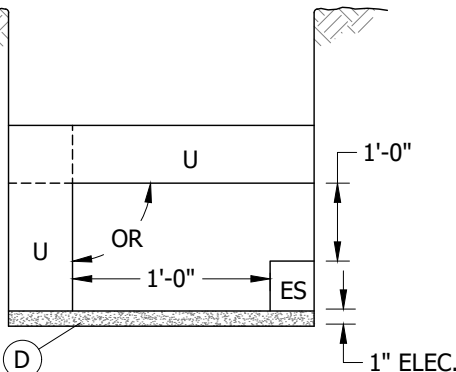

FIGURE 6
THE FOREIGN UTILITY (U) SPACE ALLOTMENT MUST BE A MINIMUM OF 6 INCHES BELOW THE GAS MAIN AND 12-INCH RADIAL SEPARATION FROM ALL OTHER UTILITIES MUST BE MAINTAINED (SEE FIGURES 1 AND 5). IF (U) SPACE ALLOTMENT EXCEEDS A 9-INCH HORIZONTAL MEASUREMENT, IT MUST BE PLACED DIRECTLY ABOVE THE ELECTRIC SPACE ALLOTMENTS AND SHALL NOT EXTEND PAST THE OUTER SIDES OF ELECTRIC SPACE ALLOTMENTS. (FOR INSTALLATION PURPOSES, BENCHING THE TRENCH IS NOT ALLOWED). SEE FIGURES 2, 3, & 4. IF (U) SPACE ALLOTMENT IS 9" X 9" OR SMALLER, IT IS ALLOWED AT THE SAME LEVEL AS THE ELECTRIC (SEE FIGURE 6).